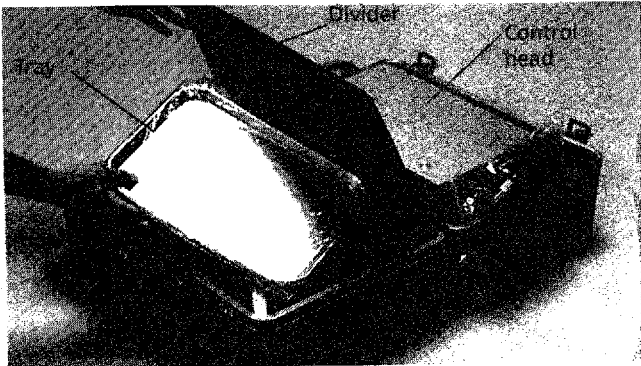

Figure 6. Remove the (optional) second tray and tray holder.
- If your unit is equipped with the (optional) second tray holder and tray (see Figure 6), remove them and set aside.